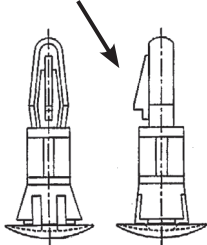

Fig. 1
STEP 1: Use these holes to mount SMP3 by pushing the nylon circuit board fasteners (*Fig. 1*) through the back of the enclosure. Nylon fasteners will snap into place.